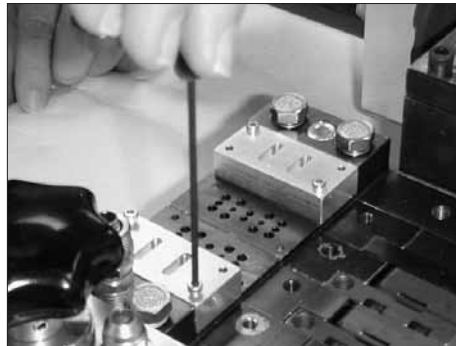

Figure 7-85 Installing block-off plates
2. See Figure 7-85. Using a 2.5-mm hex wrench, attach the block-off plates to the slices not receiving solenoid valves.